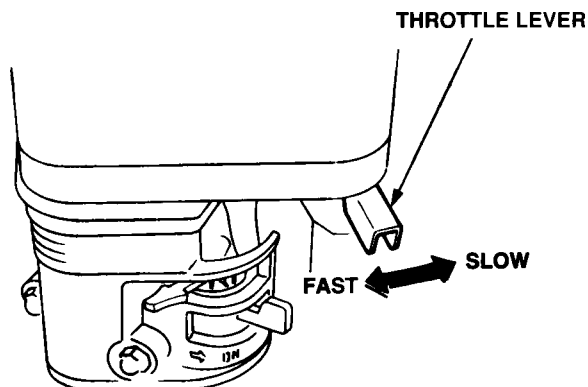

Figure 20. Throttle Lever
7. Place the **throttle lever** (Figure 20) halfway between **fast** and **slow** for starting. All sawing is done at full throttle. The engine governor speed is factory set to ensure optimum blade operating speeds.
1. Place the throttle lever (Figure 20) in the slow position, and listen for the engine speed to decrease.
2. Move the engine throttle lever to the idle (SLOW) position (Figure 20).